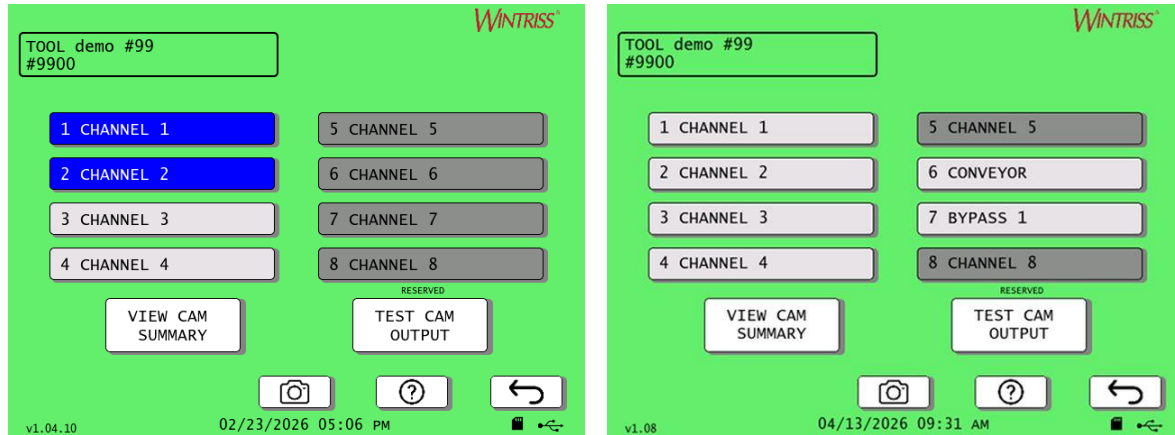

Figure 4-20. Cam Switch Menu, 5-8 Unprogrammable (left), 5 and 8 Unprogrammable (right)
1. On the Tool Programming menu, Figure 4-5, page 202, press CAM SWITCH. The Cam Switch menu appears, Figure 4-20. Programmed cams buttons are blue. Unprogrammable cams buttons are gray.